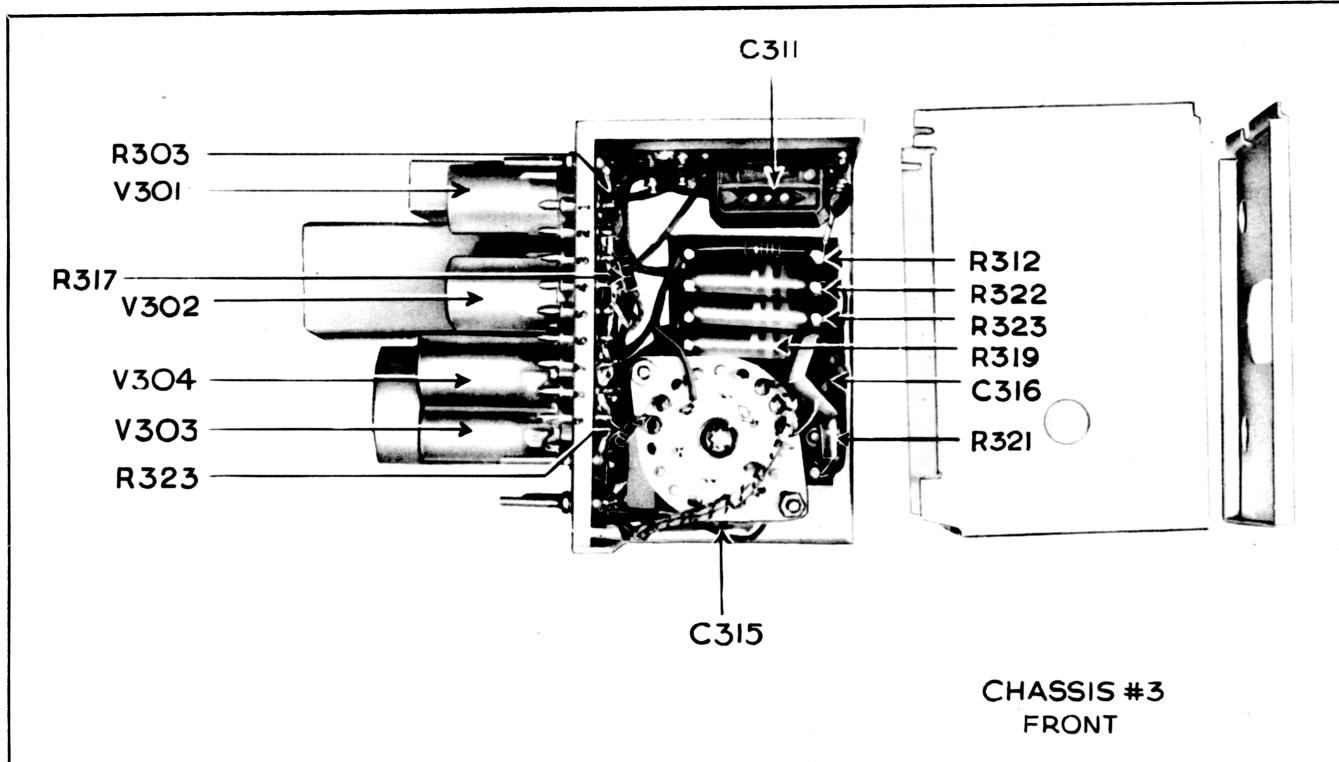

Figure 4-17. Chassis No. 3—Front View
(1) This chassis contains one stage of i-f amplification at 3.9 megacycles, a second detector, and a push-pull vertical deflection amplifier. (See figs. 4-17, 4-18.)
(2) V-301 is a conventional i-f amplifier which feeds V-302 through an i-f transformer, T-301. V-302 acts as an amplifier when used with channel CRO. In A, B, or C channels the tube is self-biased to the point where the average value of voltage developed across capacitor C-309 and resistor combination R-307 and R-308 follows the audio frequency modulation envelope. Detection is the result. In CRO position, only part of the cathode bias resistance is used and the tube operates Class A, a cathode follower.
(3) V-303 and V-304 act as push-pull amplifiers and feed the vertical deflection plates of the cathode ray tube. In early models of this equipment, the output of the push-pull amplifiers could be switched into the primary of an output transformer for channel C operation. This was the audio output for this channel and the secondary was connected to the "PHONES" jack. In present models, the output of the push-pull amplifiers, be-